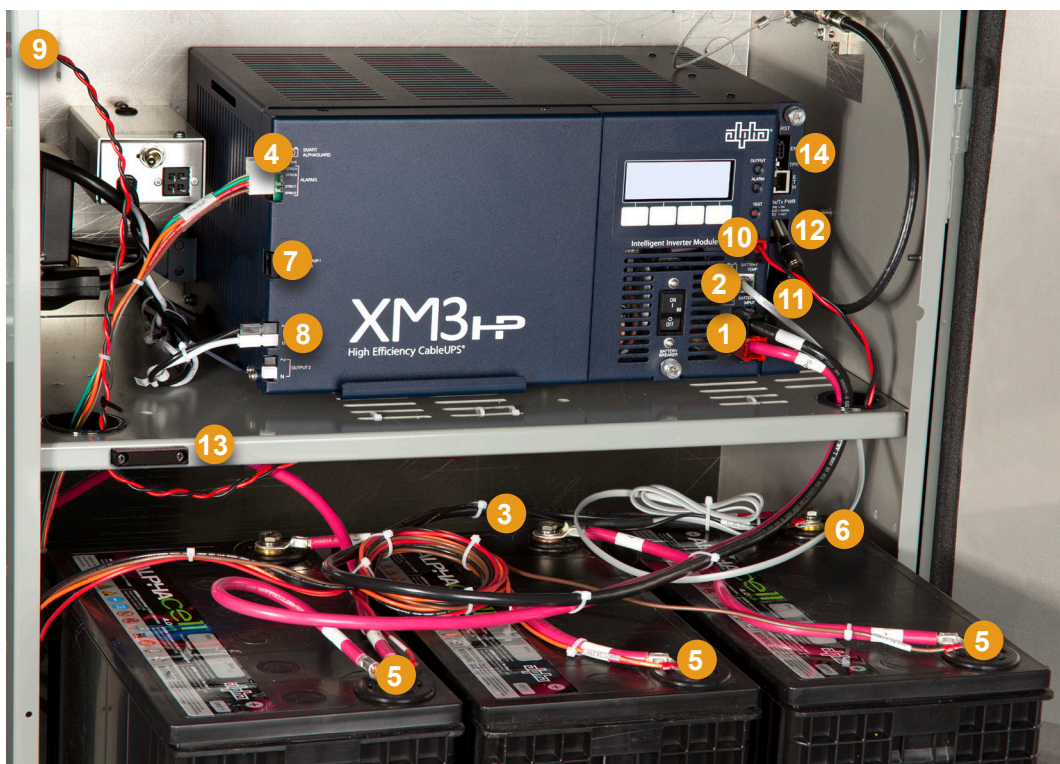

Fig. 4-1, XM3-HP System Components
- c. Inspect all cabling and connections of the Power Supply system (see Fig. 4-1). Verify that all cabling is intact and all connectors are properly seated; resolve as needed.